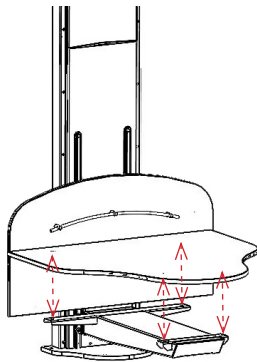

FIGURE 2.9 - Install Top Panel
STEP 1: Carefully align the table top panel with four holes on the lift frame. See FIGURE 2.9